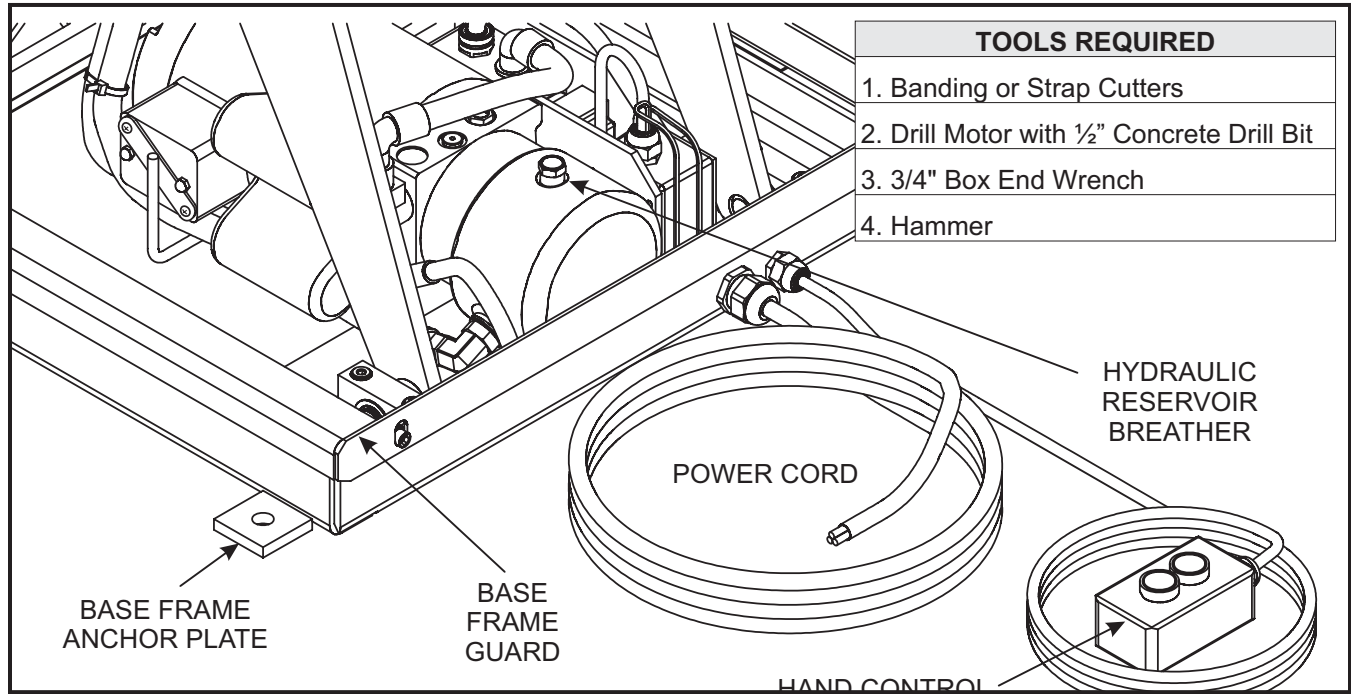

Figure 5 - Installation Components
The Vision™ lift table is shipped on a pallet and only requires minor assembly before it is ready for use. Before you begin, locate and identify the components detailed in Figure 5. These components will be referred to in the installation procedures. Make sure you understand the function of each component before proceeding.
3. Inspect the removable scissor hinge blocks for tightness. Each block has two (2) socket head cap screws that secure the block to the base frame or the platform. Check the screws for tightness. Each screw should be tightened to 38 ft-lbs of torque. If loose, **REMOVE** the lift from service and contact a qualified service person to have these screws tightened to the proper torque.
7. Check the level and appearance of the hydraulic fluid. To do so, raise the unloaded platform and engage the maintenance catches (See Maintenance Catch Operating Instructions on page 7). Remove the breather on the top of the reservoir (Refer to Figure 5). Using a dip stick, check the fluid level from the top of the reservoir. The proper fluid level is between 2 ½ - 3 inches below the top of the reservoir breather port with the lift in the raised position. If required, add fluid to the reservoir. **CAUTION: DO NOT** overfill the reservoir or fluid will be forced out the breather when lift is collapsed. Check the condition of the fluid, it should appear light in color. The fluid should be changed if the color has darkened or if it feels gritty. Replace the reservoir breather.